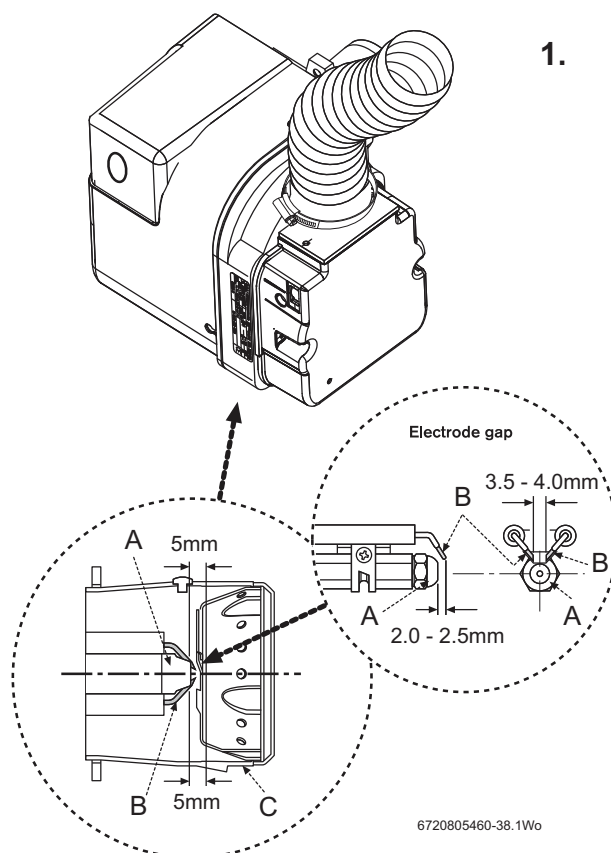
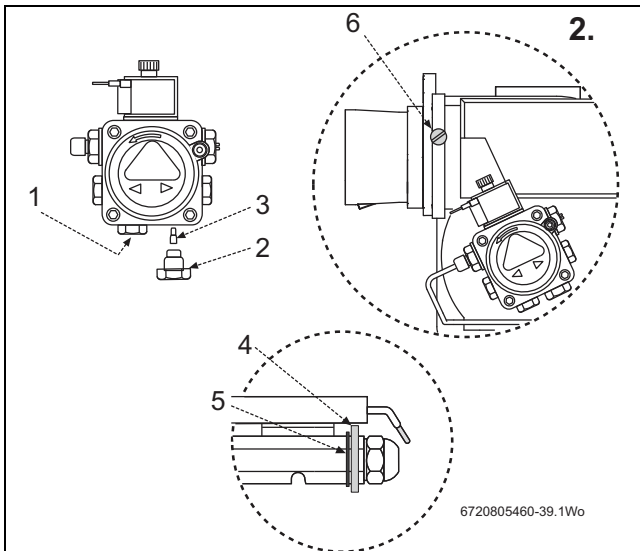

Fig. 30 Nozzle and electrode alignment
Fig. 31
1. Check that the nozzle (A) and the electrode (B) alignment settings are correct as shown in figure 30.
- ▶ Ensure that the nozzle (A) is aligned centrally within the combustion head (C).
- ▶ Before removing or fitting a nozzle (A), loosen screw (6 figure 31) and move the electrodes (B) forward. After refitting check that the electrode gaps are correct, as shown in figure 30.